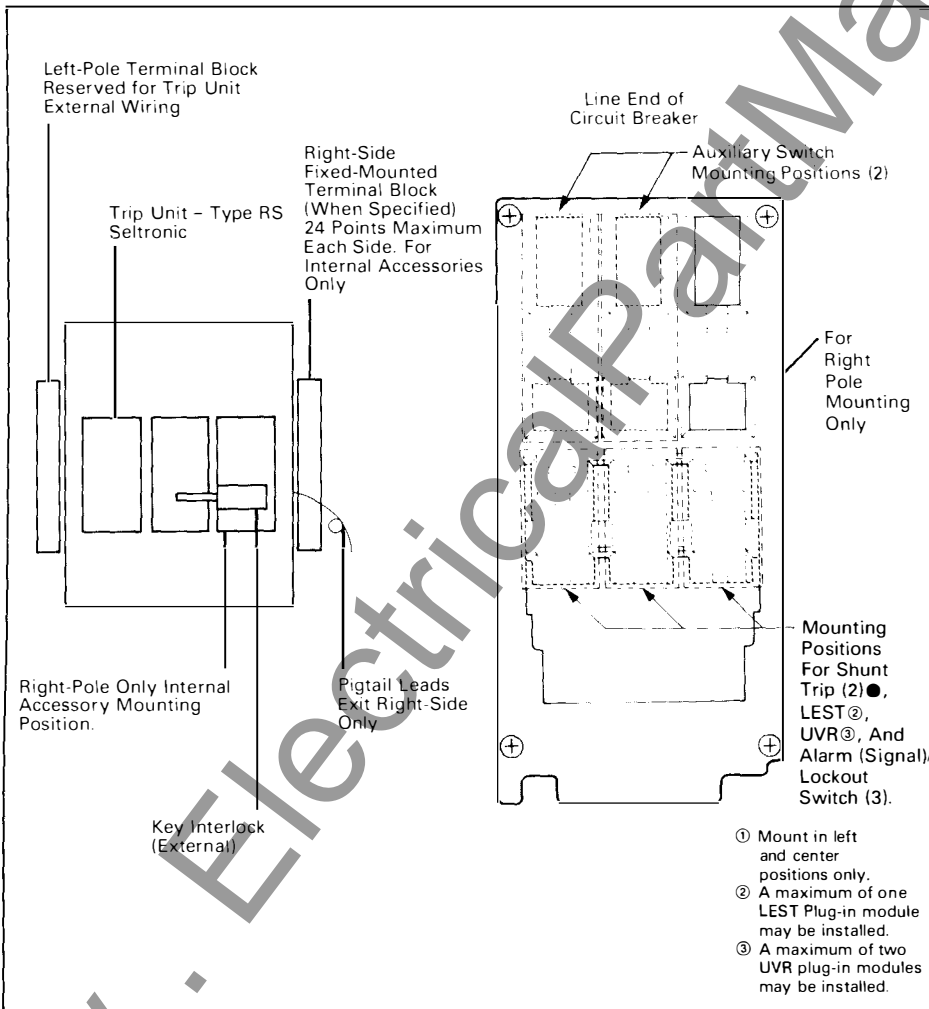

Figure 4-2. Accessory Mounting Locations
Different combinations of accessories can be supplied. Figure 4-2 shows the different accessories or combinations that can be used internally with R-frame circuit breakers. All internal accessories fit into an accessory mounting deck that is positioned in the right-hand pole in the circuit breaker. The key interlock external accessory is also positioned on the cover over the right-hand pole.
- (d) When internal accessories are ordered for field installation, accessory mounting arrangements can be verified by referring to Figure 4-2.